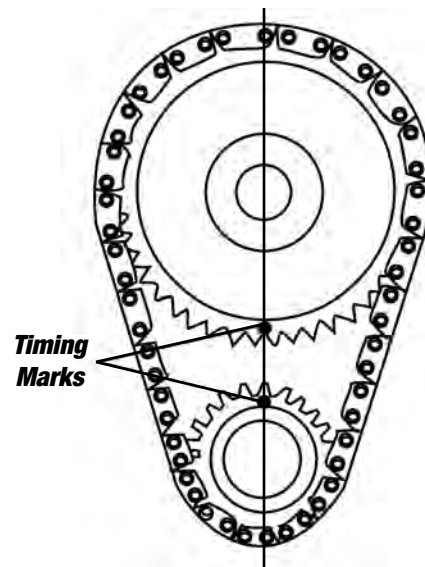

Figure 2 - Timing Chain Sprocket Alignment.
3. Install camshaft with timing marks lined up as recommended by factory specifications. See Figure 2. **NOTE:** *Install new seal between oil pan and front cover if old seal is damaged after removal. Use RTV silicone sealant on seal to ensure proper seal to pan.*